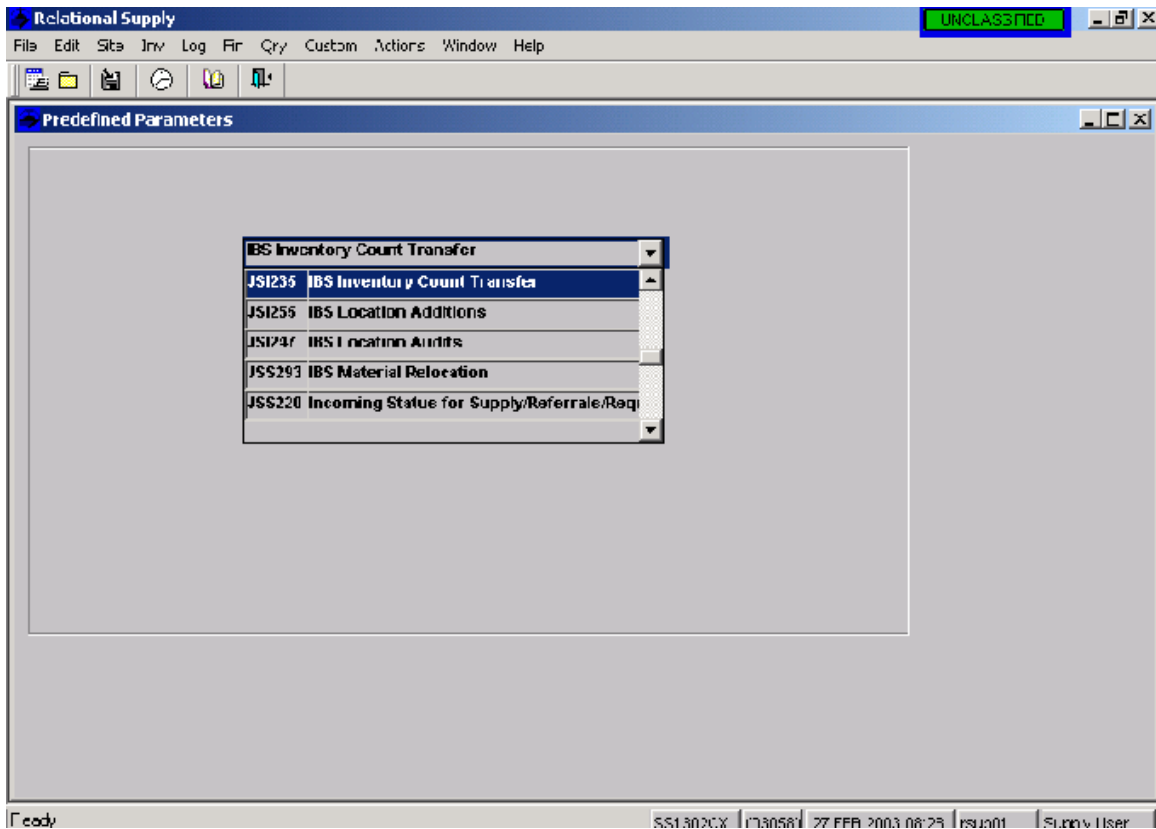

Figure O1
- c. Select JSI235-IBS Inventory Count Transfer (FIGURE O1)